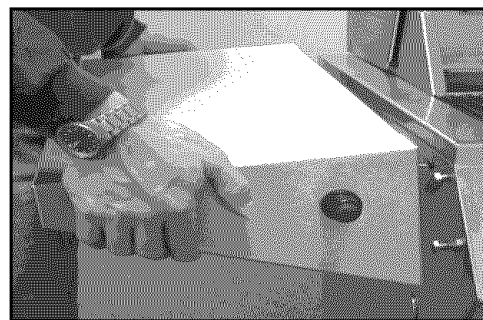

Fig. 5
1. Loosen the bolts on the side of the grill and attach the shelf by allowing the bolt heads to fall through the large opening in the bottom of the keyhole slots. Then slide the shelves downward until the bolts are resting against the top of the key hole slots. Tighten all of the shelf bolts. (See Fig. 5)